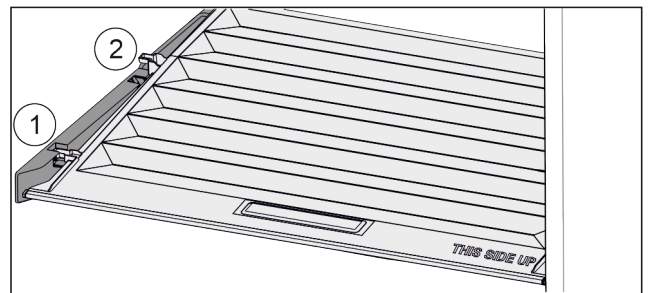

Fig. 113
- ▶ Pull the lid up at the front in the retaining parts to the opening Fig. 113 (1).
- ▶ Lift from the back and pull it up and out Fig. 113 (2).